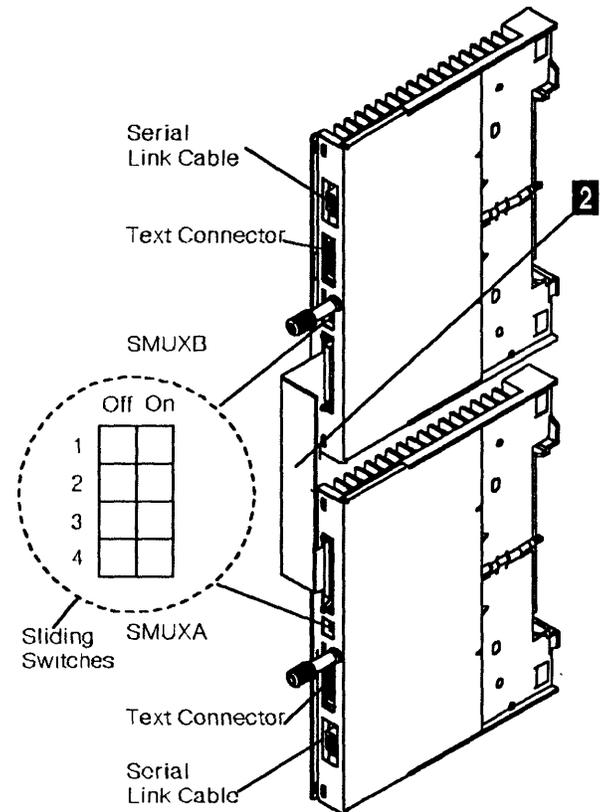

Figure 4-114. SMUX Link and Cable.
Refer to Figure 4-114 and do the following.
7. Refer to Figure 4-114 on page 4-83, then install the serial link cable (if any) on the SMUX.